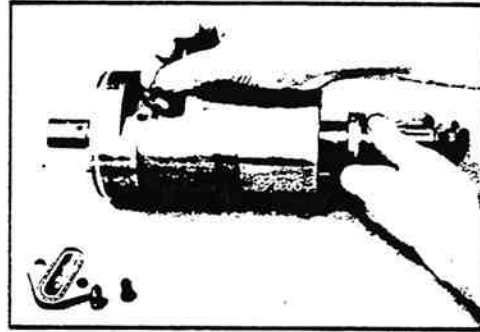

Figure 11-65. Ball Insertion.
9. Assemble 34 balls (18) into the ball return guides (4c) and rack piston (10). Drop the balls through the hole provided in the ball return guides. As you drop the balls, rotate the worm shaft (5a) to pull the balls down into the grooves (figure 11-65).